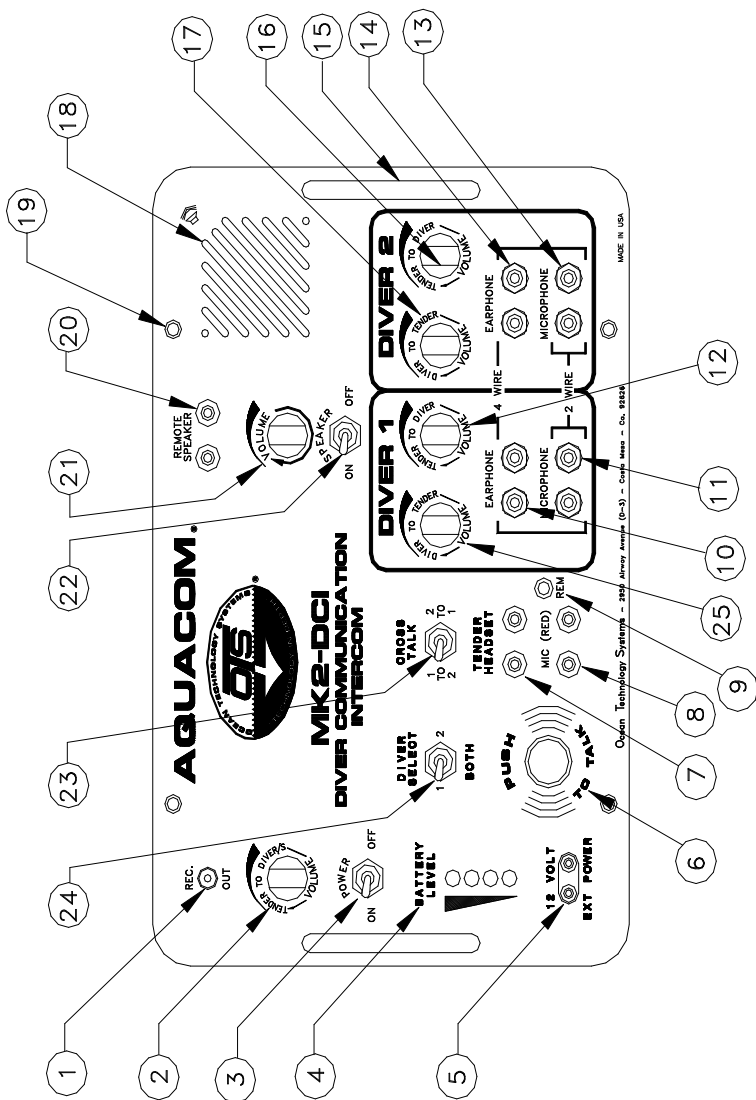
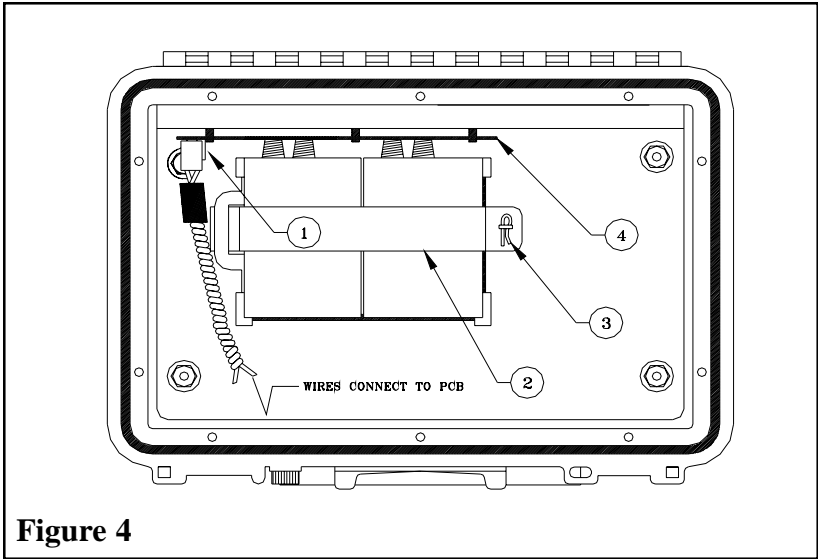
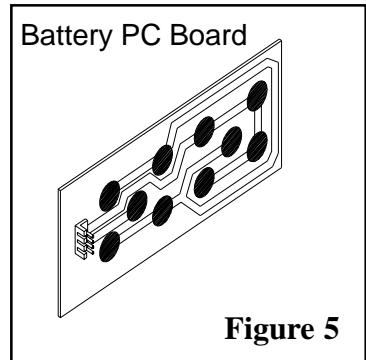

Figure 1
Figure 4
Figure 5
| Figure 1 (MK2-DCI Two-Diver Air Intercom)..... | 5 |
(Note: See page 5, Figure 1 for a panel description.)
INSTALLATION OF 6-VOLT BATTERIES: Locate and loosen the four screws located on the front panel (see Figure 1, #19). These screws are captive and will not come off the front panel. Remove front panel from housing. Remove cotter pin from battery strap (see Figure 4, #3). Remove battery strap from battery housing (see Figure 4, #2). Insert both 6-volt, spring-type lantern batteries, springs facing toward battery PC board (see Figure 4, #4). Verify that the batteries are secure on the bottom of the housing and the backs are being held by the back plate. You will notice the batteries can be installed with springs in any direction on the PC board (see Figure 5). After batteries are installed, replace the battery strap and cotter pin, dress the wires so they are not pinched when you put the front panel back in place, replace the panel, and tighten the four screws (do not overtighten).
3) **ALTERNATE POWER SOURCE:** The external receptacle (see Figure 1, #5) provides an easy terminal for a marine or automotive 12-volt DC source. The power source should provide 12 volts and a minimum of 3 amps capacity. The alternate power source connection is also used for charging the battery.
- 2) When in the four-wire mode, you must use a headset with a boom microphone, and the Diver Select switch must be in the “BOTH” position. If feedback is present, switch off the front panel speaker (see Figure 1, #24).